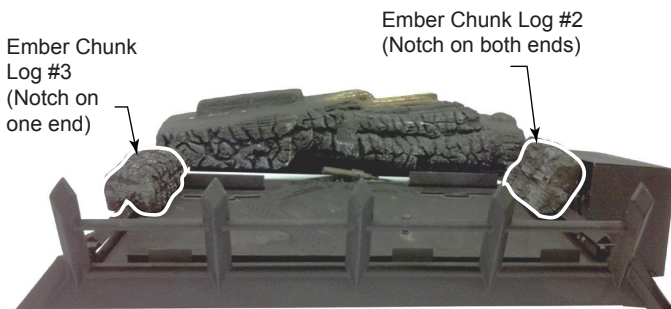

Figure 52
3. Place the ember chunk (#3) with notch on one end on the grate bar left side of the burner with notch towards rear. Push towards rear as far as possible. Figure 52